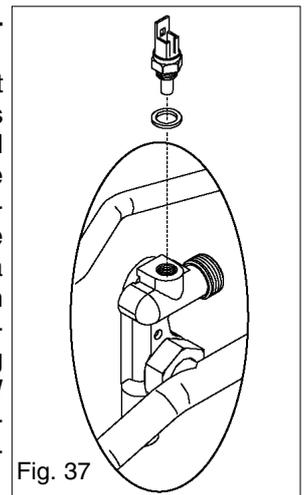

Fig. 37
6.24 SECONDARY THERMISTOR fig. 37